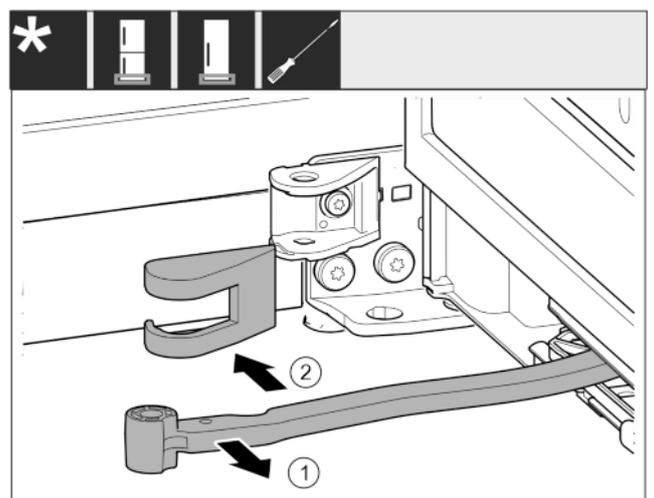

Fig. 13
- ▶ Turn the hinge in the direction of the door. Fig. 13 (1)
- ▶ Remove the bearing bracket cover. Fig. 13 (2)